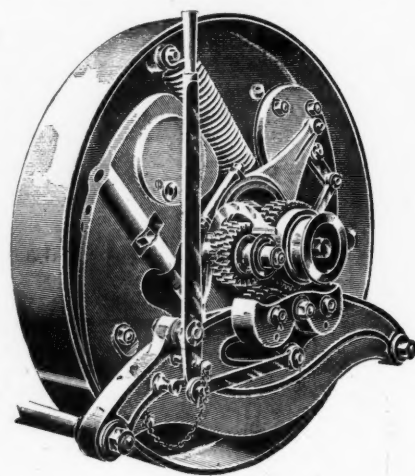

FIG. 16.
15) is the outcome of a large number of experiments made to arrive at a design which gives a firm control of the valve under all conditions, and which will stand the wear and tear to which it is subjected. When it is desirable to alter the speed of the dynamo during the run, the governor is fitted with Raworth's speeder gear (illustrated in Fig. 16).